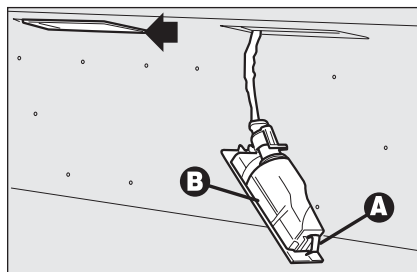

fig. 36
- ☐ operate with a flat blade screwdriver protected by a soft cloth on device **A-fig. 36** to remove the light unit **B**;